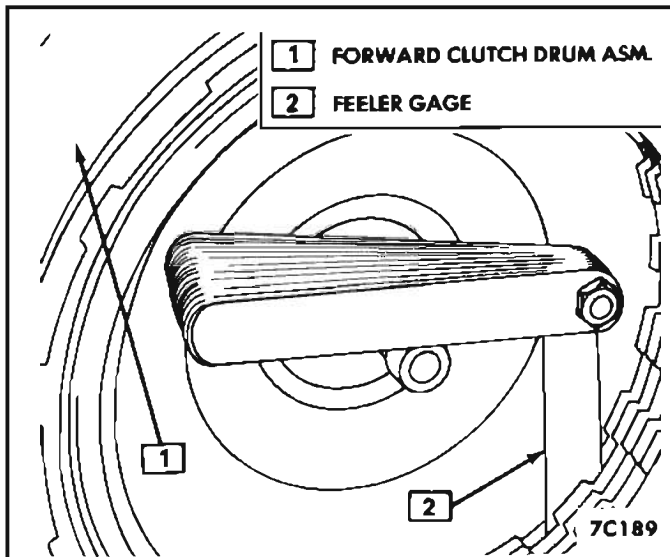

Figure 68 Checking Pressure Plate Clearance
5. Install forward clutch pressure plate and retaining ring. Using a feeler gage check clearance between forward clutch pressure plate and faced plate. See Figure 68.